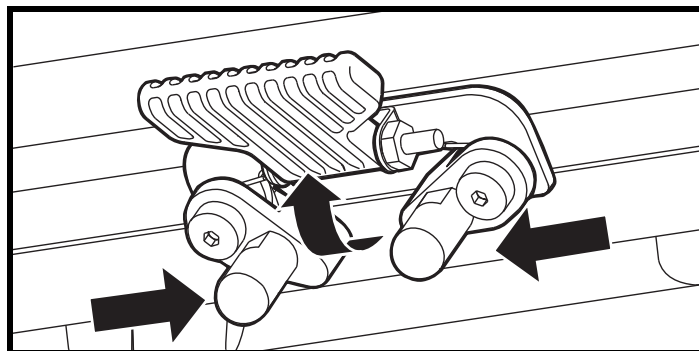

Figure 14. Seat Height Adjustment - Seat Latch Safety
4. Flip up the seat latch safety. See figure 14.